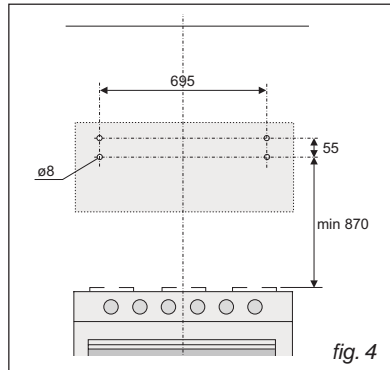
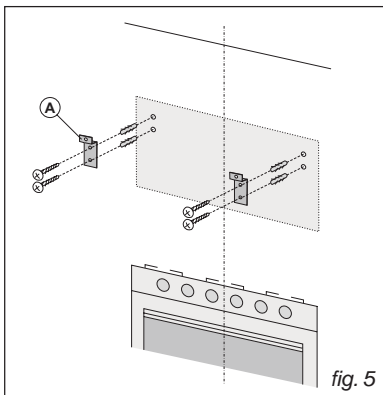
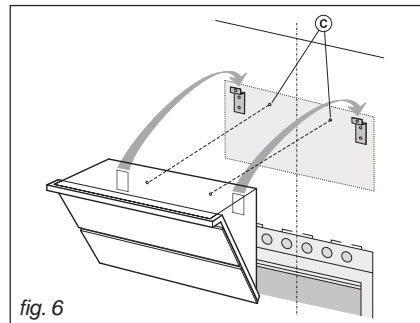

fig. 4
fig. 5
fig. 6
Draw a line on the wall in vertical line with your hob. Mark the first 4 holes to be drilled in the wall, respecting the distances indicated in Fig. 4. Drill the 4 holes and fit the screw anchors provided. Fix the metal brackets (A) to the wall using the holes just drilled (Fig. 5); the screws for fixing the bracket are provided. Hang the hood on the brackets (Fig. 6). Adjust the horizontal position moving the hood to the right or left so that it is aligned with the wall units. When adjustment has been completed, without removing the hood, mark the other 2 holes to be drilled (C) in the wall. Remove the hood and drill the holes marked (8 mm diameter). Then use the 2 screw anchors and the 2 screws provided for final fixing.